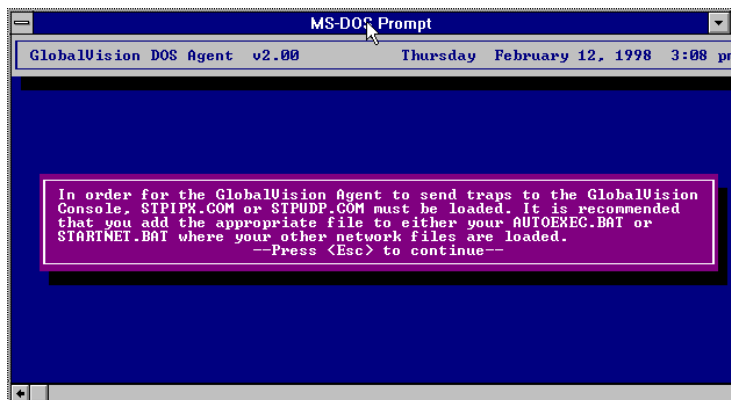

Figure 60 – STPIPX.COM / STPUDP.COM warning message
8. The next screen is a warning message to make sure the **STPIPX.COM** or **STPUDP.COM** file is loaded. These files are used by the **GLOBALVISION AGENT** to create SNMP traps and packets to send to the **GLOBALVISION CONSOLE**. The file that needs to be loaded depends on the network protocol used: **STPIPX.COM** for **IPX**; **STPUDP.COM** for **TCP/IP**. Either of these files must be loaded in the **AUTOEXEC.BAT** or **STARTNET.BAT** file to continue installation. See Figure 60.